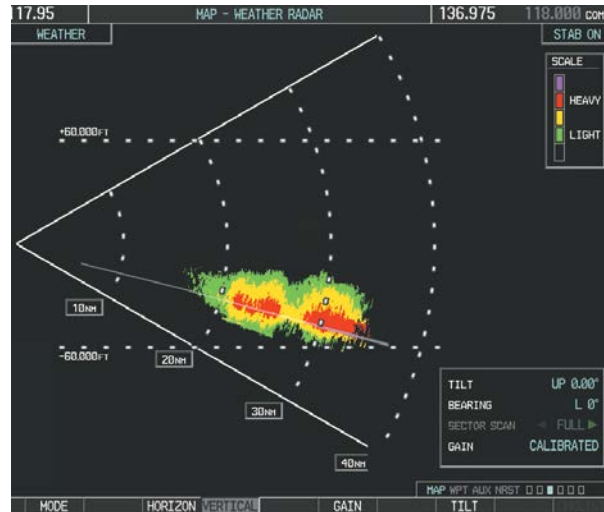

Figure 6-108 Vertical Scan Display
- 4) Press the **VERTICAL** Softkey. A vertical scan of the selected area is displayed (Figure 6-108).